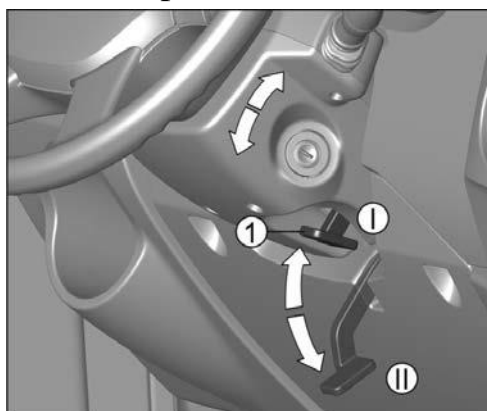

Fig. 5.6. Steering column adjustment: 1 - lever
- lower the lever 1 (see Fig. 5.6) of the steering column locking mechanism down (position II);